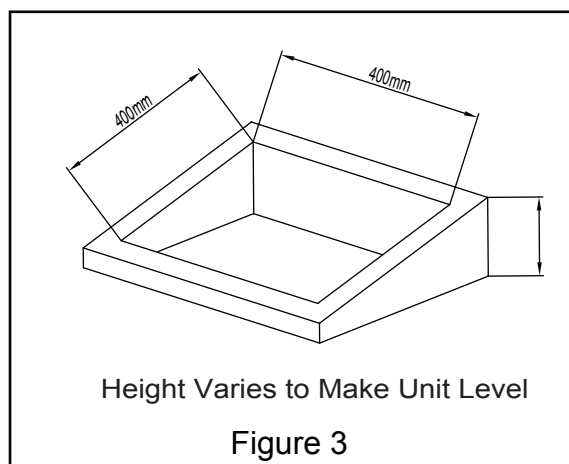

Figure 3
2. If the roof of the vehicle is sloped (not level) such that the roof top air conditioner cannot be mounted within the maximum allowable degree specifications, an exterior leveling shim will need to be added to make the unit level. A typical leveling shim is shown in Figure 3.